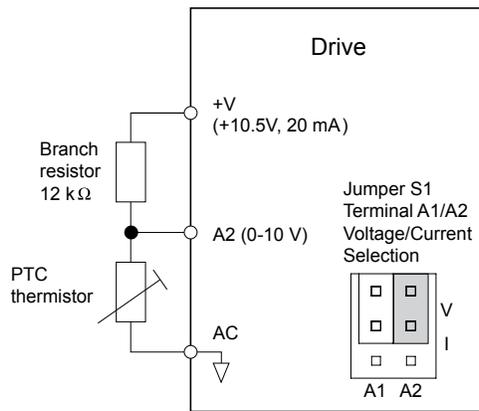

Figure 1.59 Connection of a Motor PTC
**Figure 1.59** shows a PTC connection example for analog input A2. When using analog input A2, be sure to set Jumper S1 on the control board for voltage input when using this function.